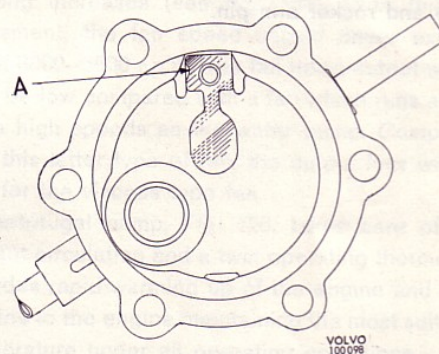

Fig. 122 Location of leaf spring
1. Fit the spring according to Fig. 122 and the stop arm. Tighten the screw sufficiently so that the spring fits well against the pump housing.